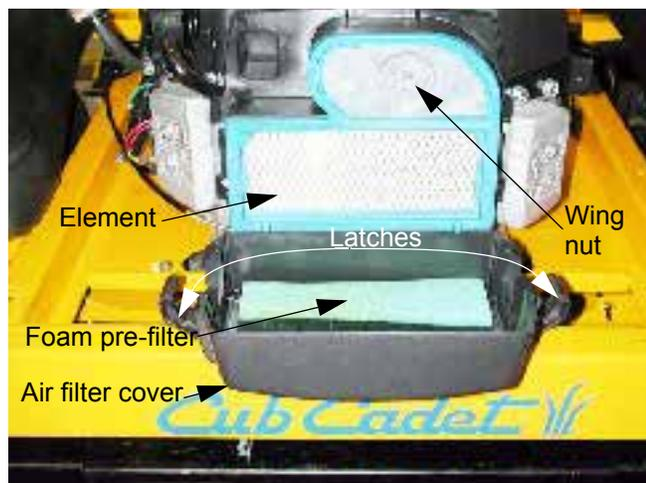

Figure 14.1
14.1. The air filter cover is easily removed by releasing the cam action latches at each side of the cover. A wing nut holds the air filter element in place. See Figure 14.1.